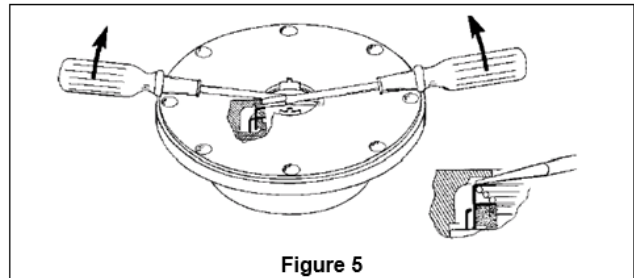

Figure 5
6. Remove the head capscrews (21) and carefully pry the head (20) away from the cylinder.
7. Slide the head off the shaft. The head O-ring (72), bearing (24), and mechanical seal (153) will come off with the head assembly. Remove and discard the head O-ring.
- a. Pull the bearing (24) from the housing in the head.
- b. To remove the **mechanical seal** (153), use two screw drivers to gently push the backside of the seal jacket to push the seal from the head (see Figure 5). Use care when placing the screwdrivers to prevent damage to the seal faces. Remove and discard mechanical seal O-rings.